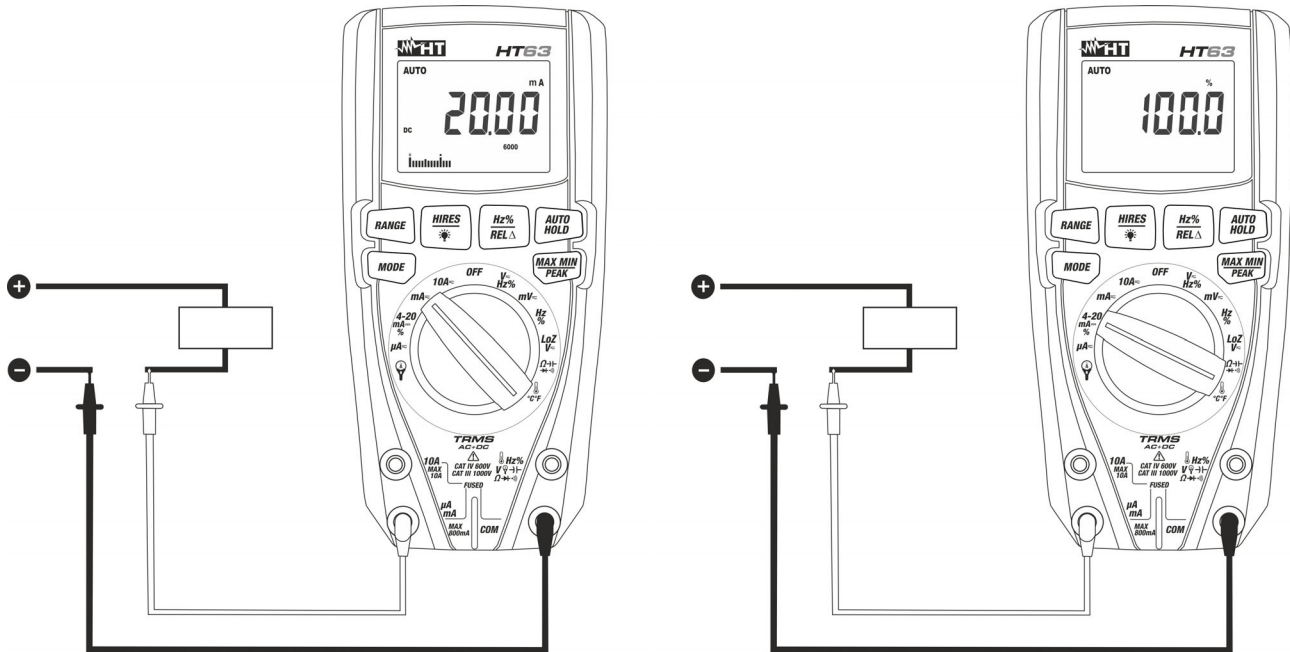

Fig. 10: Use of the instrument for DC current measurement and 4-20mA% reading.
4. Connect the red lead and the black lead in series to the circuit whose current you want to measure, respecting polarity and current direction (see Fig. 10).
6. The value of DC current (see Fig. 10 – left side) appears on the display.
7. The value of reading 4-20mA% (0mA = -25%, 4mA = 0%, 20mA = 100% and 24mA = 125%) (see Fig. 10 – right side) appears on the display. The bargraph is not active in this function
9. When symbol “-” appears on the instrument's display, it means that current has the opposite direction with respect to the connection in Fig. 10.